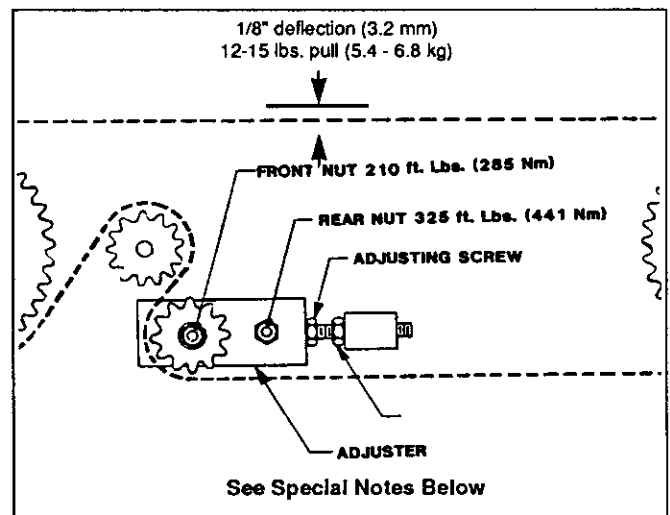

Figure 6-11
7. On outside of chain case, behind the front wheel, loosen two (2) one inch nuts.
9. Torque two (2) one inch nuts to torque as shown. (See figure 6-11)